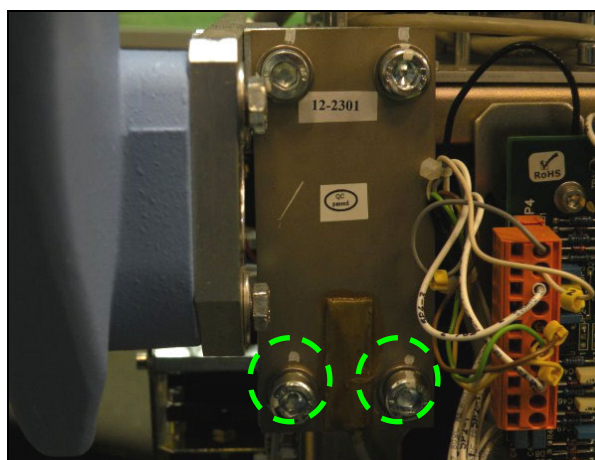

Figure 2
- (1) Turn OFF the DX-D 100 / DX-D 100 Wireless.
- (2) Remove the front and back covers of the unit. For details, refer to the *Troubleshooting* chapter in the *DX-D 100 / DX-D 100 Wireless Mobile X-ray Unit Service Manual*. See 'Referenced Documents' in chapter 2 of this bulletin.
- (3) Remove the screws that hold the mobile door and the generator door to be able to access the gauges.
- (4) Remove the screws located in the lower part of the left gauge. See dashed circle marks in figure 2.